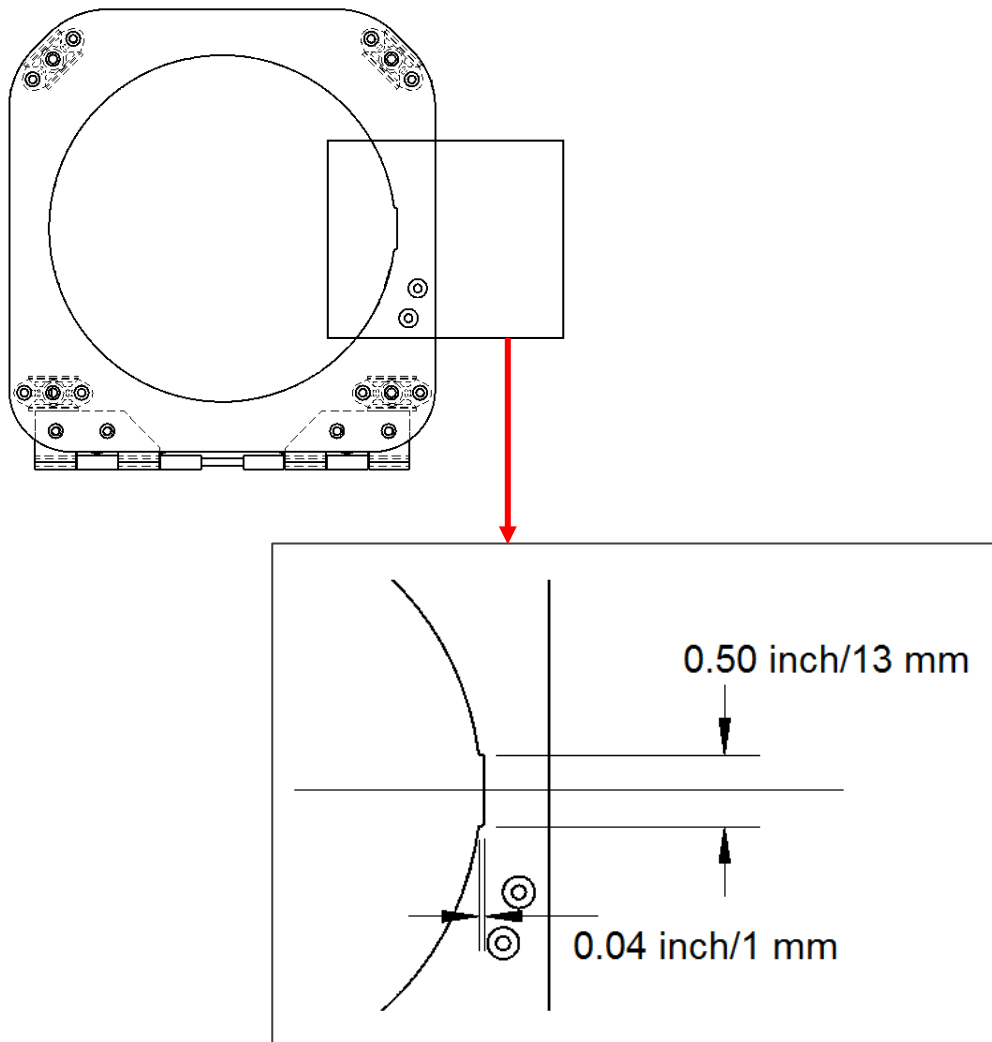

Figure 5. Notch Filed in Holder Plate
6.2.3.1 Using an appropriate size metal file, gently file a notch in the holder plate to the dimensions specified in Figure 5 to accommodate the keyway on the Rev. C assembly.